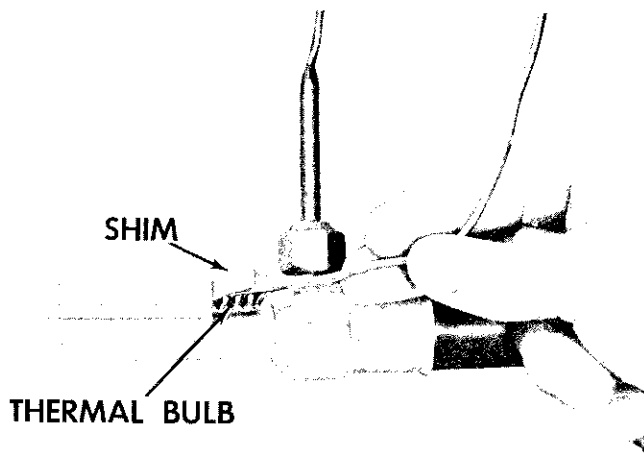

Fig. 63—Thermal Bulb Installed
(1) Remove the equalizer line from the evaporator suction line fitting.
(2) Disconnect the valve from the  $\frac{3}{8}$  inch inlet line and from the  $\frac{1}{2}$  inch outlet line. Use two flare wrenches to loosen each of these connections.
(3) Remove the grommet retainer and the rubber grommet from the evaporator engine-side housing. Carefully pull the thermal bulb (Fig. 63) and thermal bulb wedging shims from the well located inside the evaporator housing.